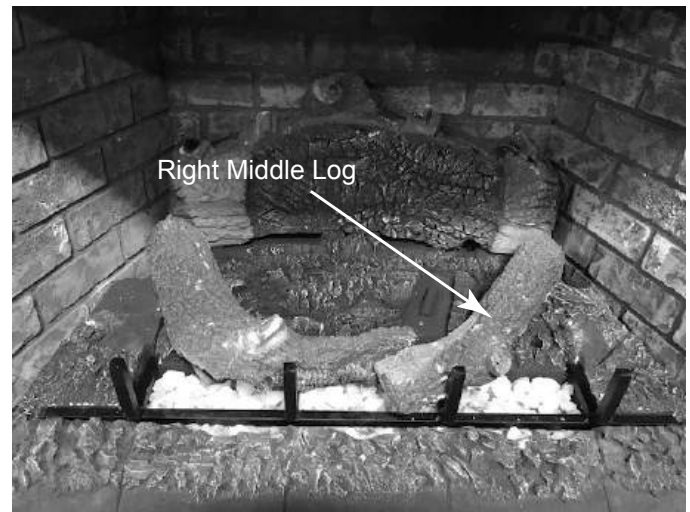

Figure 11.16
- Locate the right middle log by placing the notch on bottom rear of right middle log on to the locating point of burner top. The front of right middle log will interlock with left front log. See Figure 11.16.